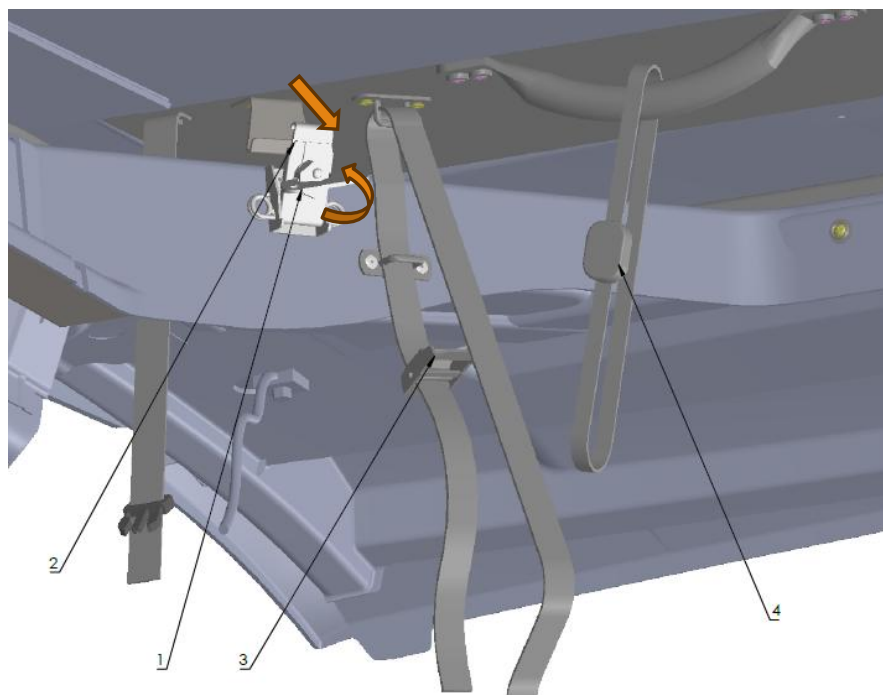

Fig. 2
- First, unfasten the butterfly locks ( **Fig. 2, 1** ) on both sides of the vehicle (driver and passenger), tilt the lock ( **Fig. 2, 2** ), and then release the securing straps ( **Fig. 2, 3** ) also on both sides.
- Gas cylinders **1 and 2 maintenance (Fig. 2)** – wipe with a damp cloth and secure with silicone grease, do not use mineral oils
- Construction elements made of *abs 3* (**Fig. 2**) maintain with a preparation for plastic, e.g. Koch Chemie Plast Star.